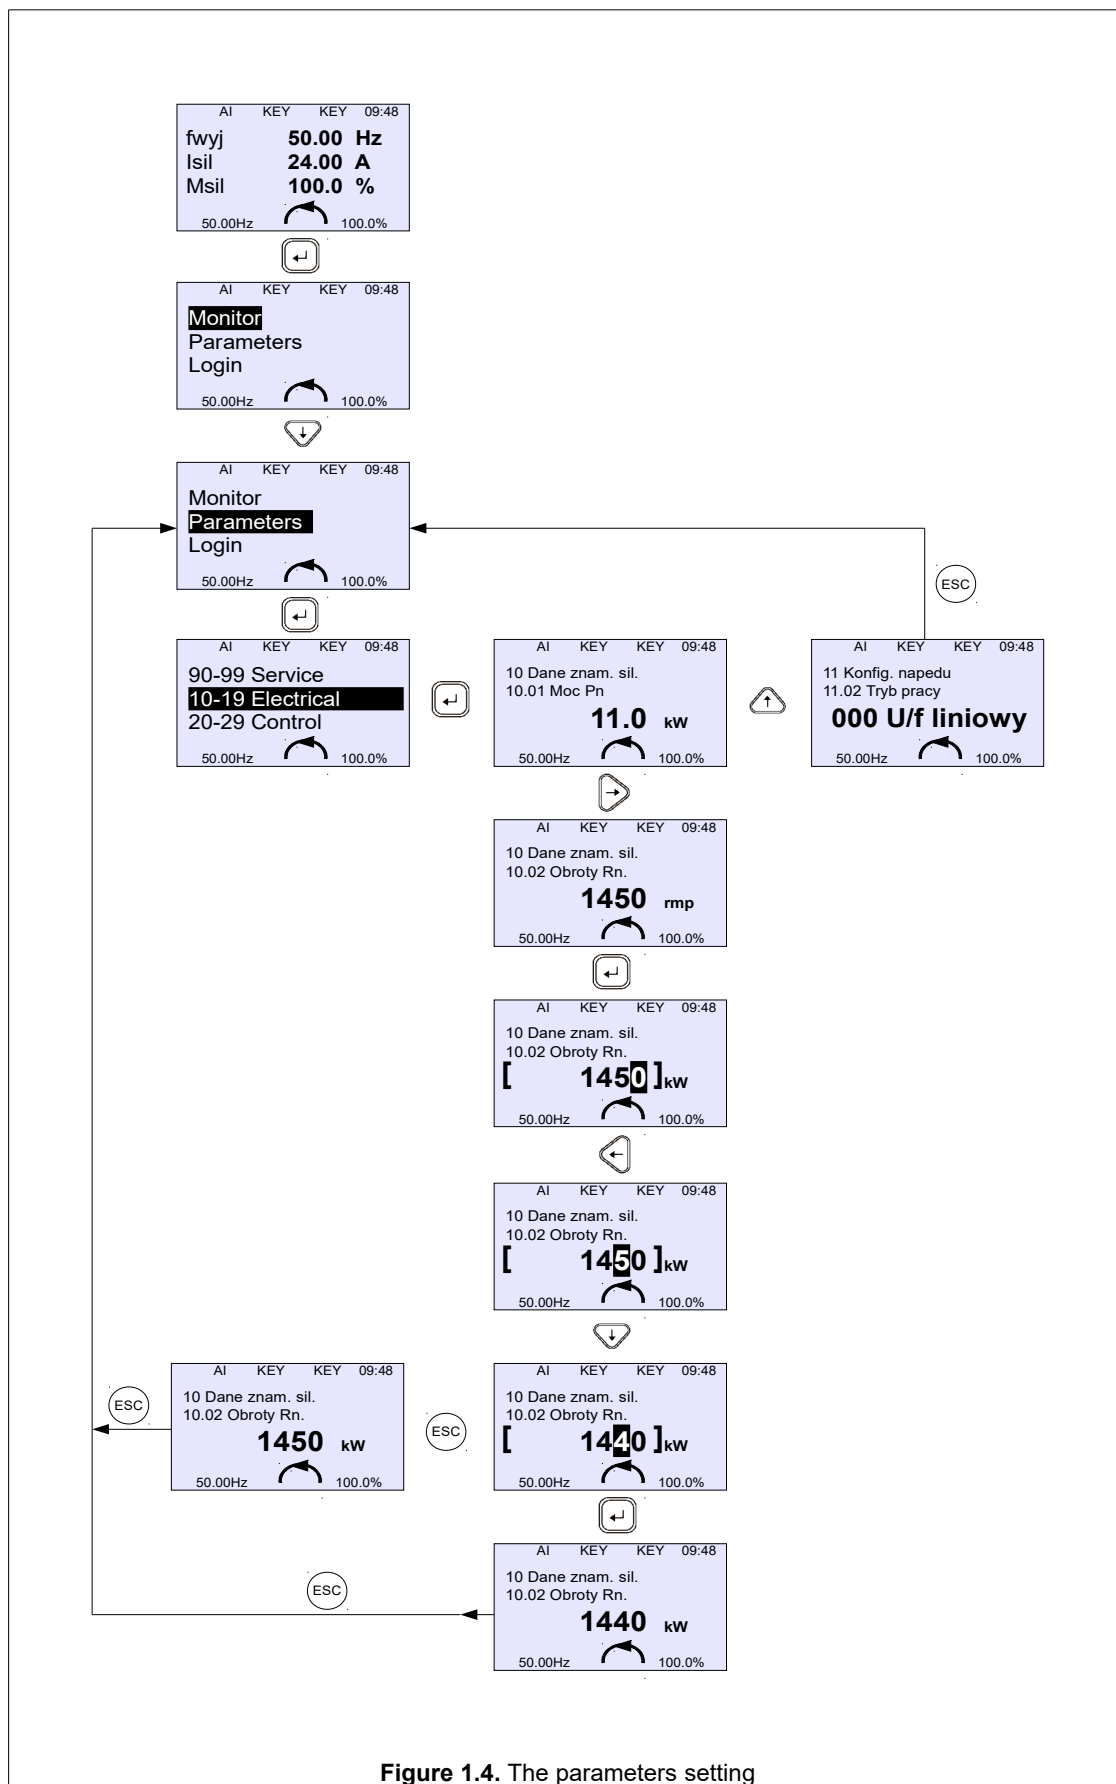

Figure 1.4. The parameters setting
The procedure for setting the drive parameters is shown in fig. 1.4. Logic of control places (2) is described in the chapter 2.2. Control on page 12.